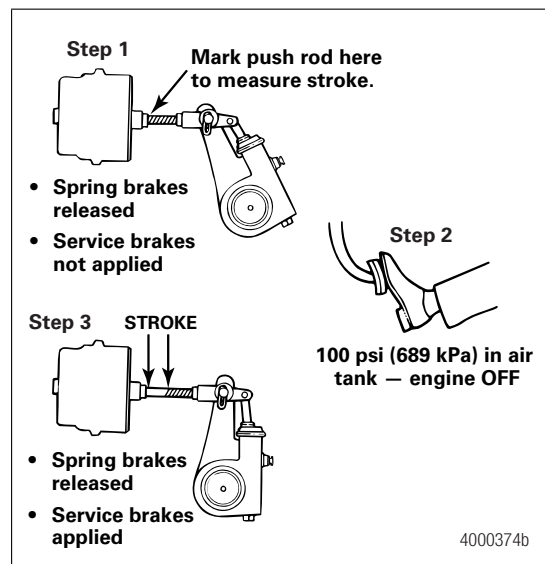

Figure 6.4
- With the brakes released, mark the push rod where it exits the chamber. Measure and record the distance. Have another person apply and hold the brakes on full application. Figure 6.4.
4. Measure the push rod travel or adjusted chamber stroke from where the push rod exits the brake chamber to your mark on the push rod. Measure and record the distance. Figure 6.4.